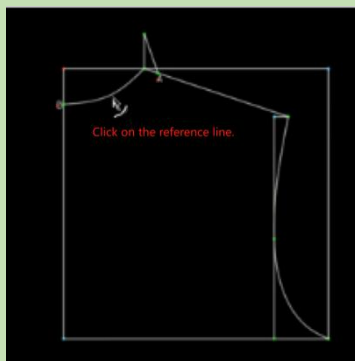

Figure4-20
1. Press the E key on the keyboard and click on the curve line (as shown in Figure 4-20).